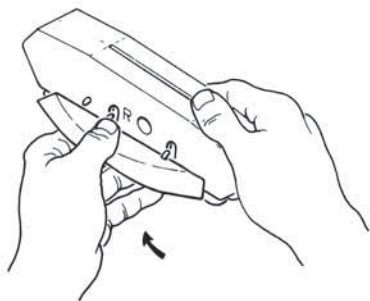

Figure 10
- Remove the old wings by bending the wings up toward the sides of the cleaner, and lift them off their hooks (see Figure 10). If any of the wing hooks are broken, take the Navigator to your dealer for pod replacement as the unit will not function properly if the wings are not properly attached.